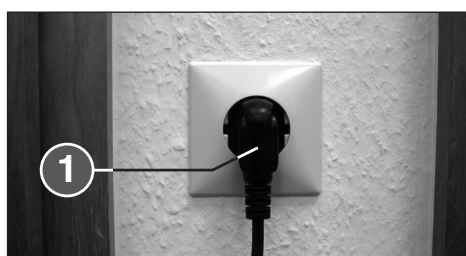

fig. 2
- Connect the machine to the power with the plug (1) (Fig. 2) (For information on the right fuse for the plug see "TECHNICAL DATA").
- 1 = Main plug (fig. 2)**